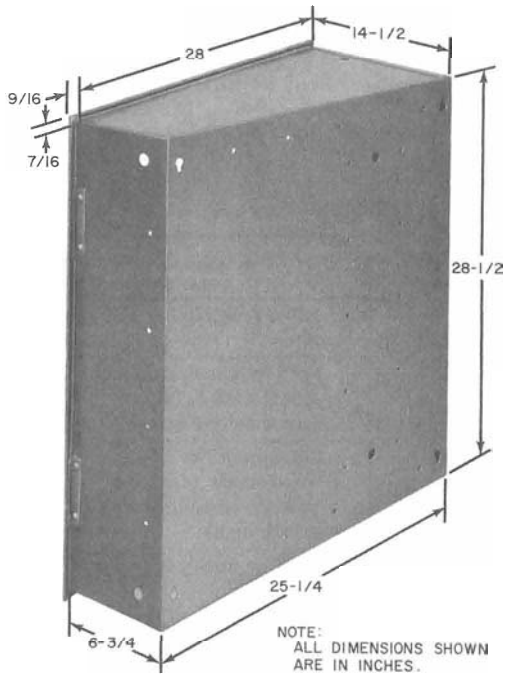

Fig. 6—Rear View of Housing
- (b) Refer to Fig. 6 and 7 for dimensions and cut hole in wall to accept housing. Minimum depth shall be 15 inches.
- 2.08** When the booth is pedestal mounted, a KS-20630, List 16 steel base assembly (Fig. 6) must be used and is ordered separately. The customer will provide an exterior to the base assembly.